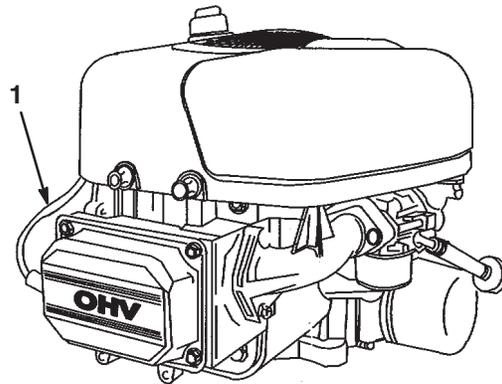

Figure 25
4. Disconnect the wire from the spark plug (Fig. 25).
3. Connect the wire to the spark plug (Fig. 25).